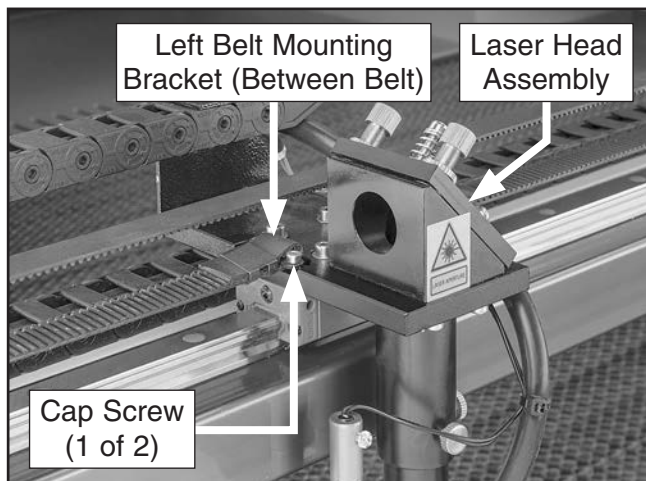

Figure 81. X-axis left belt tensioner bracket location.
4. Remove (2) cap screws on left belt mounting bracket securing X-axis synchronous belt, then remove bracket from belt (see **Figure 81**).